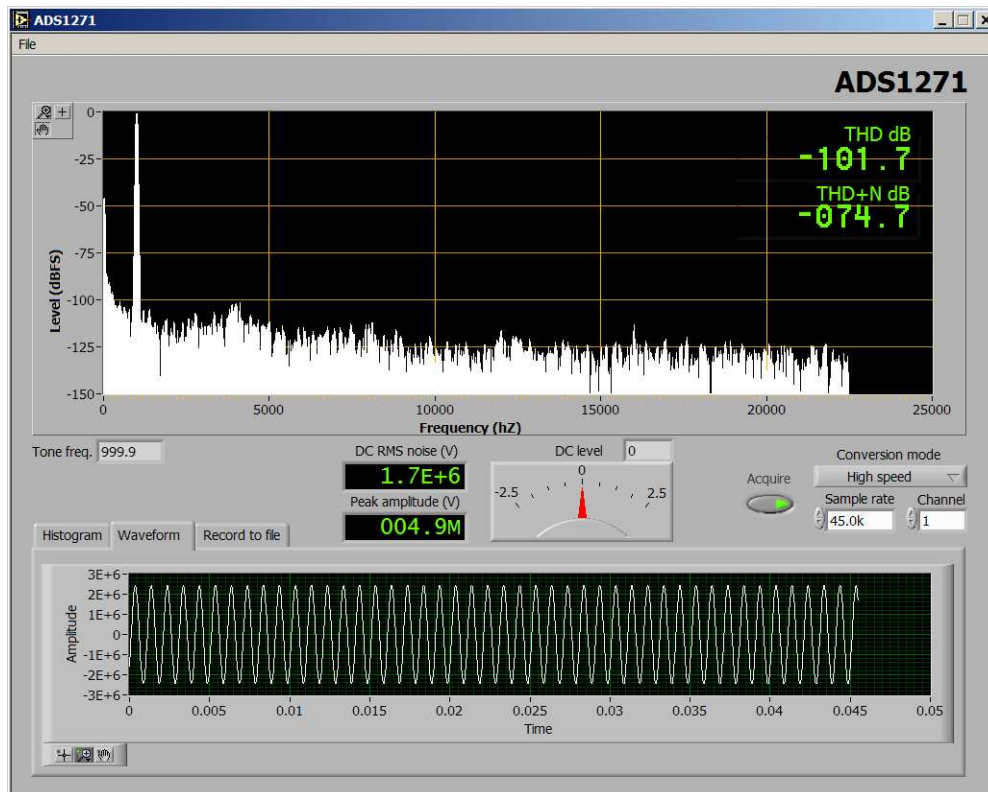

Figure 2. Default Software Screen
8. Start the software on your PC. The software should automatically find the ADS1271EVM, and a screen similar to the one in Figure 2 should appear.
After the program loads the MMB0 successfully, you will see a screen similar to that shown in Figure 2. The top portion of the display shows an FFT of the ADC data and certain AC analysis numbers. Immediately below the FFT graph (middle portion of the display) are a number of controls and meters. At the bottom of the display is a set of tabs, which show either a histogram, a picture of the incoming waveform, or the data recording controls.